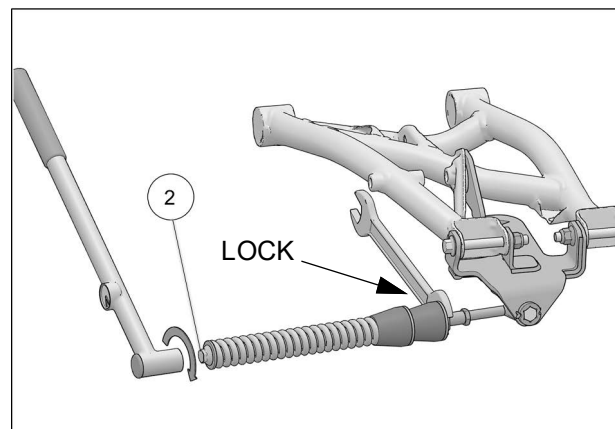

Fig. 11
11. Verify that spring assembly bolt (2) is tightened to the recommended torque specification: 75 Nm [55 lb•ft]. Make sure to lock in position, the large nut in front of the rubber cone dampers. Refer to Fig. 11